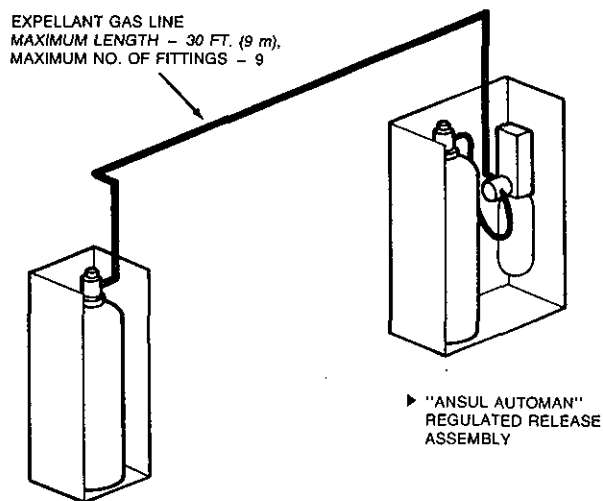

FIGURE 62
1. The expellant gas line piping is installed from the regulated release mechanism in double and multiple-tank systems, and from the regulated actuator assembly in multiple-tank systems. The expellant gas line is the piping between the regulator and the tank-enclosure/tank-bracket assembly. The total length of the expellant gas line from the regulated release mechanism or each regulated actuator assembly **must not exceed 30 ft. (9 m)** when using a "double-tank" cartridge (Part No. 73022), an LT-A-101-30 Cartridge (Part No. 29187), or a 101-30 Cartridge (Part No. 15851). See Figures 62 and 63.